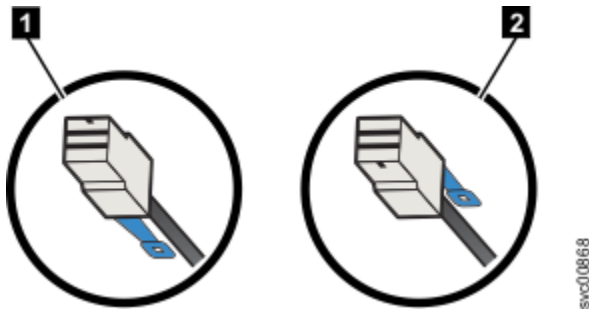

Figure 42. SAS cable connector orientation
- When you connect an expansion enclosure, the blue pull tab must be below the cable (1 in Figure 42 on page 37).
- When you connect a 2145-SV1, the blue pull tab must be above the connector (2 in Figure 42 on page 37).